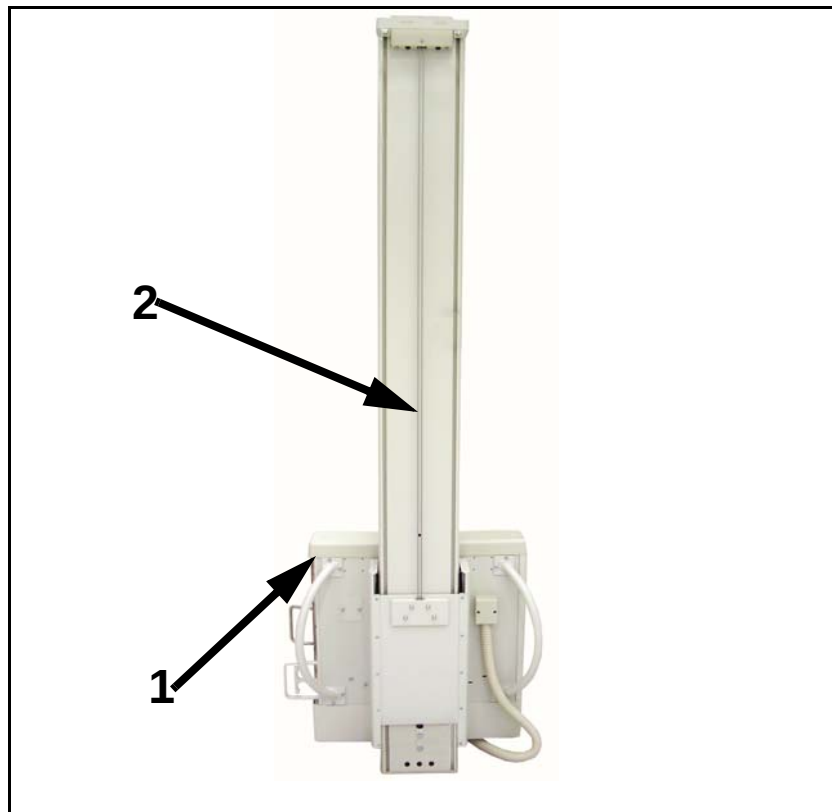

Figure 4-1. Upper and Lower Panel Screws
- 1 Move the cassette tray holder (1 in Figure 4-1) to its lowest position.